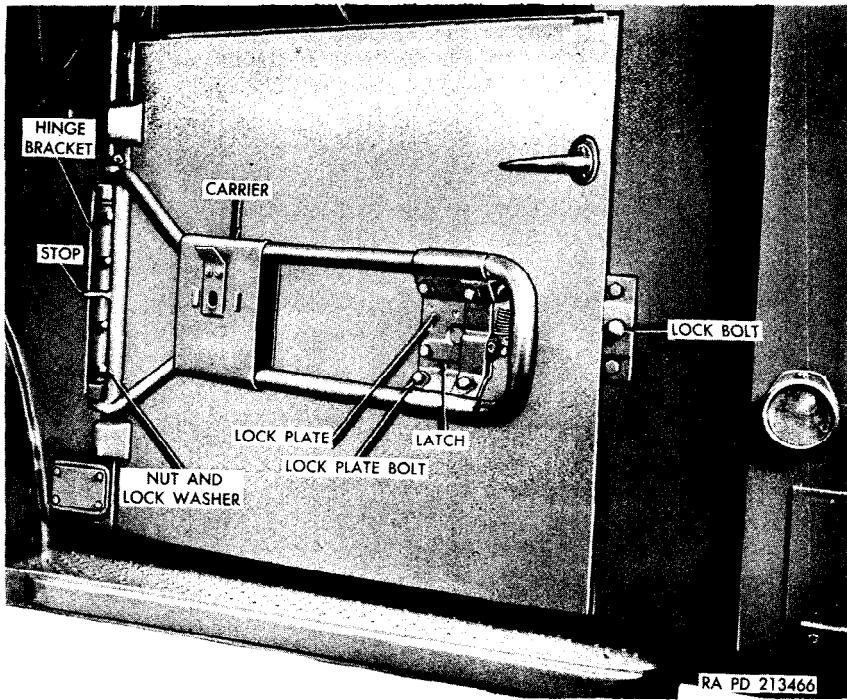

Figure 200. Spare wheel carrier (ambulance truck M43).
c. The hinged-type spare wheel carrier (fig. 200) is mounted at the left side of the ambulance truck M43. The spare wheel for the cargo truck M37 or command truck M42 is carried on a bracket at the front body panel (fig. 5), and that for the telephone maintenance truck V-41 is stowed in a compartment in the body (fig. 7).
- (1) Remove the spare wheel locking nut and remove the spare wheel.
- (2) Remove the four nuts and lockwashers (fig. 200) that secure the carrier hinge bracket on the bolts through the cowl left pillar.
- (3) Disengage the lock from the lock bolt and remove the spare wheel carrier.
- (1) Position the spare wheel carrier hinge bracket on the four
- (2) Install a $\frac{1}{2}$ -inch lockwasher and $\frac{1}{2}$ -20NF nut on each of the four bolts. Tighten the nuts.
- (3) Operate the spare wheel carrier to check the alinement of the lock plate and lock bolt. If the hole in the lock plate does not aline with the lock bolt, loosen the four lock plate bolts (fig. 200), move the plate forward or back as required and tighten bolts. (The bolt holes are elongated to provide for this adjustment.)